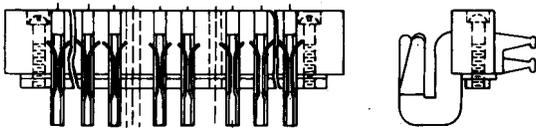

Fig. 14—344 or 344E Jack
**2.14 344 and 344E:** These multicontact jacks (Fig. 14) are used with the 242A plug and have eight pairs of contacts. These jacks consist of a wooden strip on which are mounted a number of pairs of contact springs. These jacks are intended to be mounted on the shelf framework used for mounting wired assemblies of Step-by-Step Dial Switching Systems and to engage the plugs mounted on the rear of the mounting plates of these assemblies. These jacks are furnished with the springs adjusted, but can be adjusted when assembled in equipment units so that the two springs in any or all sets of the springs will make contact with each other when the plug is removed.